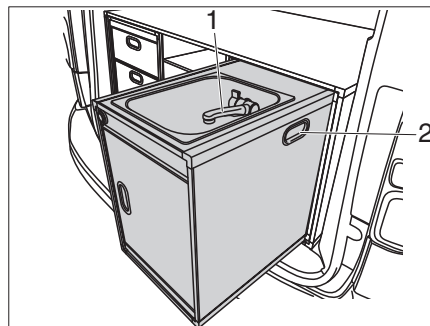

Fig. 19 Flushing module
If necessary, the flushing module may be removed. The water tap (Fig. 19,1) and charging function of the USB outlet can still be used even after removal. The flushing module can also be used outside when the lithium battery on the back of the flushing module is fully charged.
- Hold the recessed handles (Fig. 19,2) on the left and right then lift the flushing module from the vehicle.